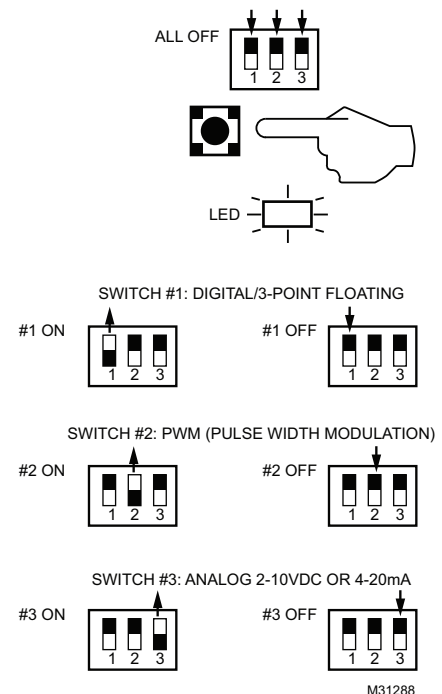

Fig. 6. Set control input type.
- Remove power and set all Programming Dip Switches to OFF by sliding DIP switch toggles away from edge of circuit board (in direction of arrows in Fig. 6–9).